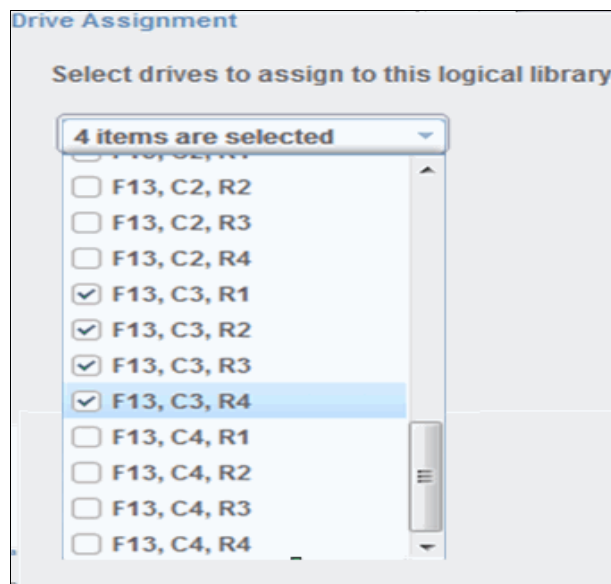

Figure 4-130 Custom drive settings
3. Use the Drive Assignment page to configure drives for the logical library, as shown in Figure 4-130. You can select all unassigned drives or select only the drives that you need. Only the unassigned drives of the type that was selected (LTO or 3592) are displayed.